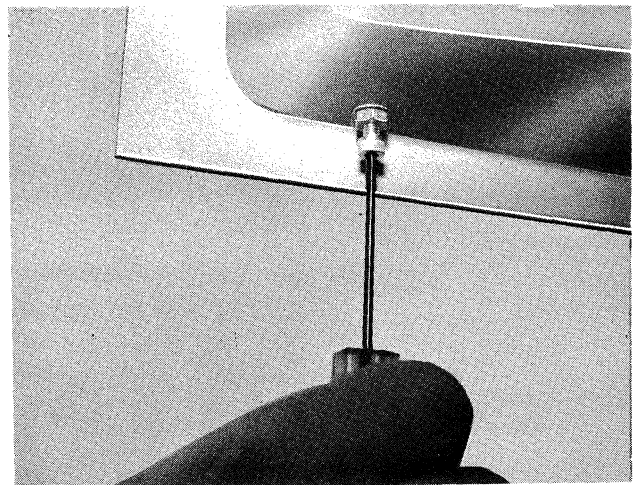

Fig. 4.6
Step 2. Adjust chamber height by a screw at the bottom of the Vacuum Chamber, see Figure 4.6. Raise or lower the chamber to obtain the correct tape alignment in the gap.